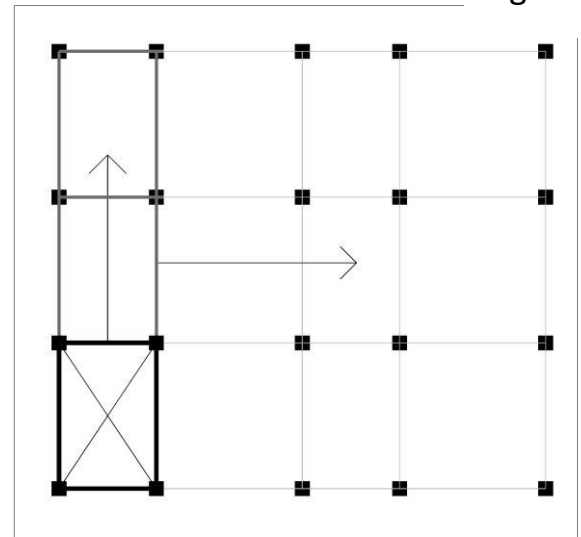

Fig 3.3
B. Begin connecting the Horizontals in one corner of the structure, creating a four-sided bay. Then expand on this bay along the gable side, then along the length until the entire structure is connected. See figure 3.3